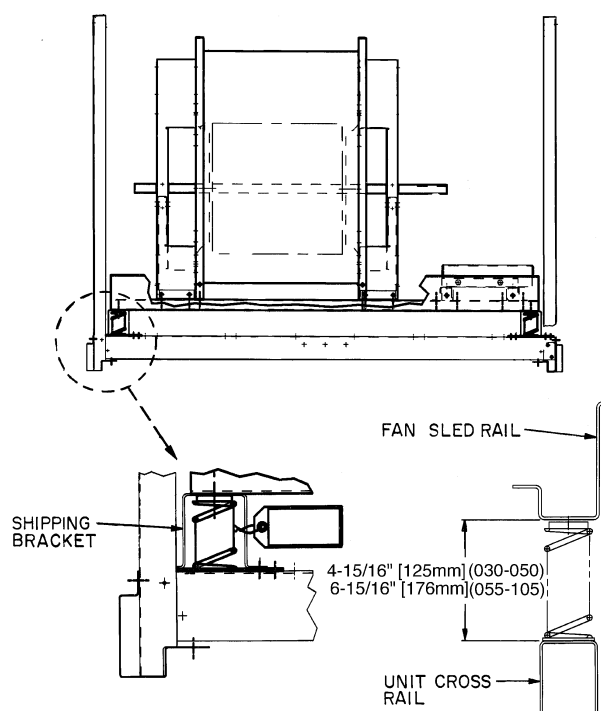

Fig. 69 — Shipping Brackets; 030-050 Units and Vertical Discharge 055-070 Units
4. After removing all shipping brackets, level fan sled using the adjusting screws. On all 4 corners, dimension from cross rail to fan sled should be as shown in Fig. 69.
UNIT SIZES 055-070 — To remove shipping brackets, remove the 6 screws holding each bracket to the cross rail. There are 8 brackets per unit. See Fig. 69 or 70.
After removing all shipping brackets, level fan sled using the adjusting screws. On all 4 corners dimension from cross rail to fan sled should be as shown in Fig. 69 or 70.